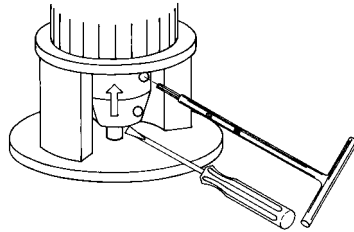

Fig. 14 Tightening the screws
6. Tighten the screws two and two (one side at a time) to the torque stated below. See fig. 14.